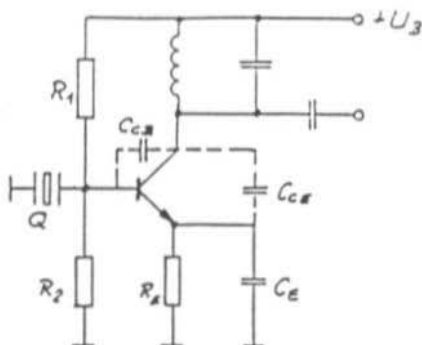

Fig.9 Overtone oscillator circuit (not recommended)
A circuit not to be recommended, which despite its problems shows no signs of dying out, is shown in figure 9. It was criticised already in 1979 on account of its unreliable operation. At this stage I can only recommend reading the article in VHF Communications (2) again.